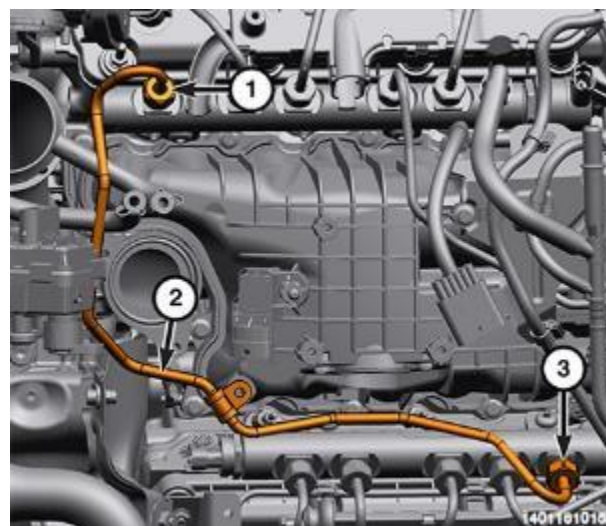

Figure 121 – Crossover Tube Bolt
53. Unscrew the union nuts (1 and 3) and remove the fuel crossover tube (2) and discard (Figure 121).